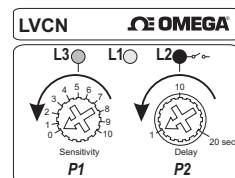

Fig.1
Verify that the location the probe is to be mounted is clear from the stream of product (Fig. 1).
When installing more than one probe in your process, verify that they are separated by a minimum distance of 500mm (Fig. 1).
1. Turn both potentiometers (P1 and P2) fully counterclockwise before you begin (Fig. 1).
Seal the thread with Teflon tape before installation (Fig. 1).